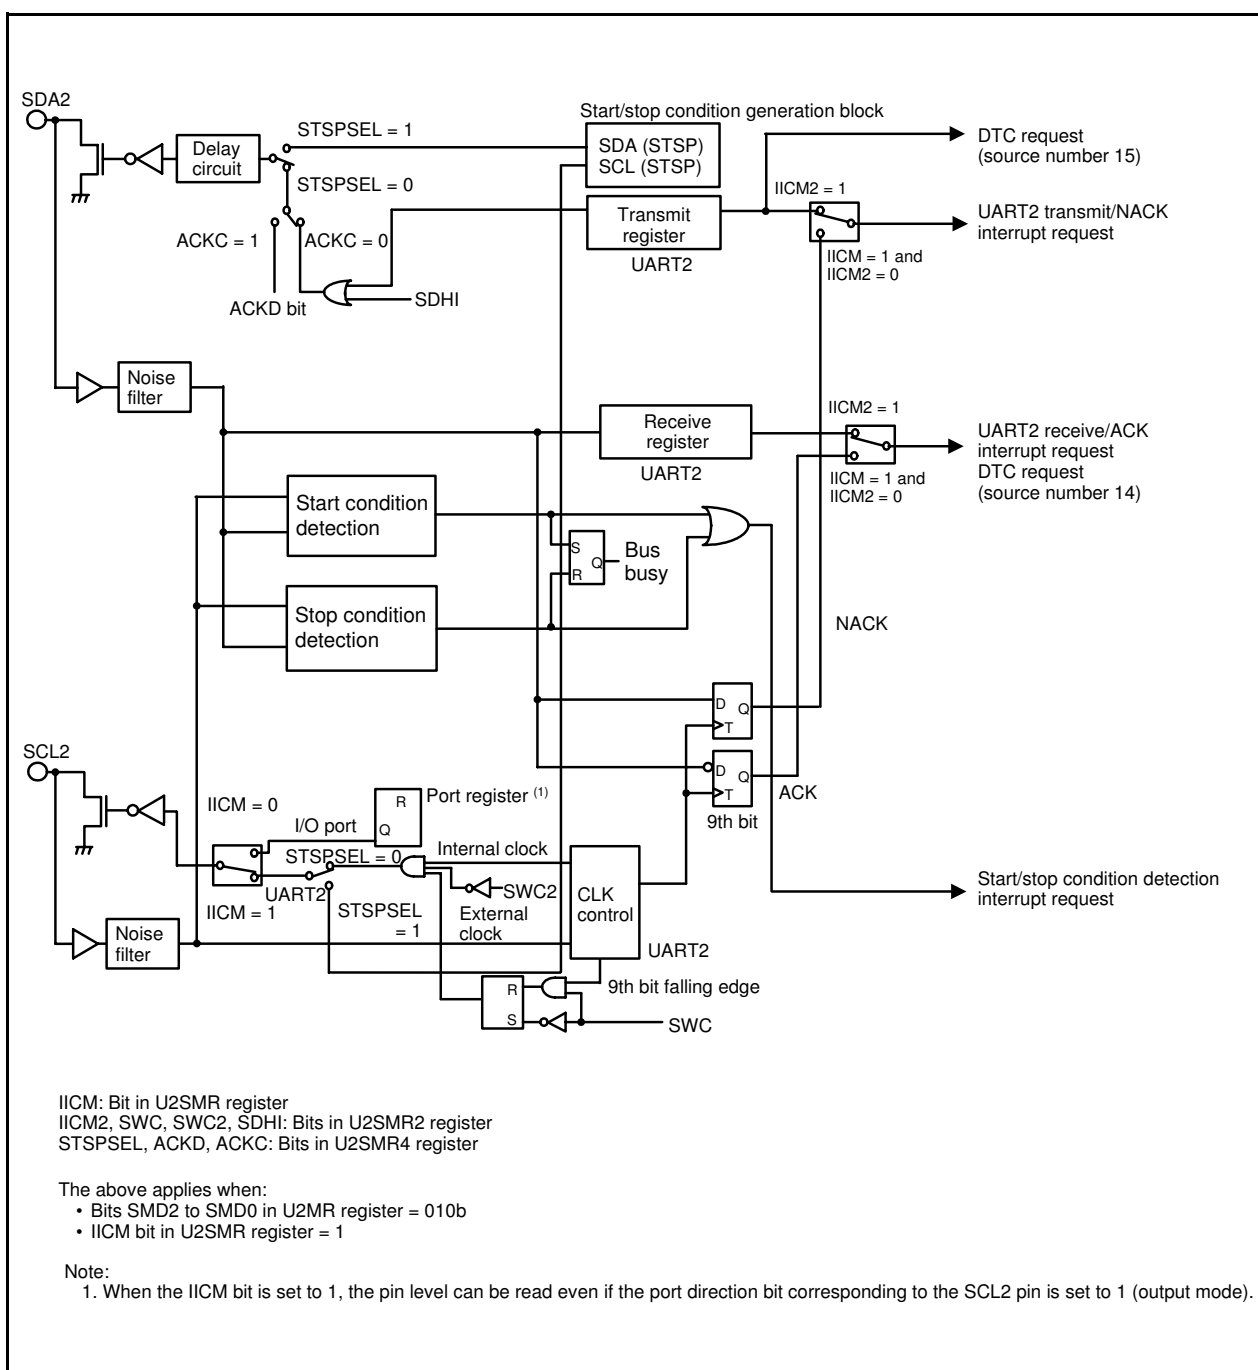
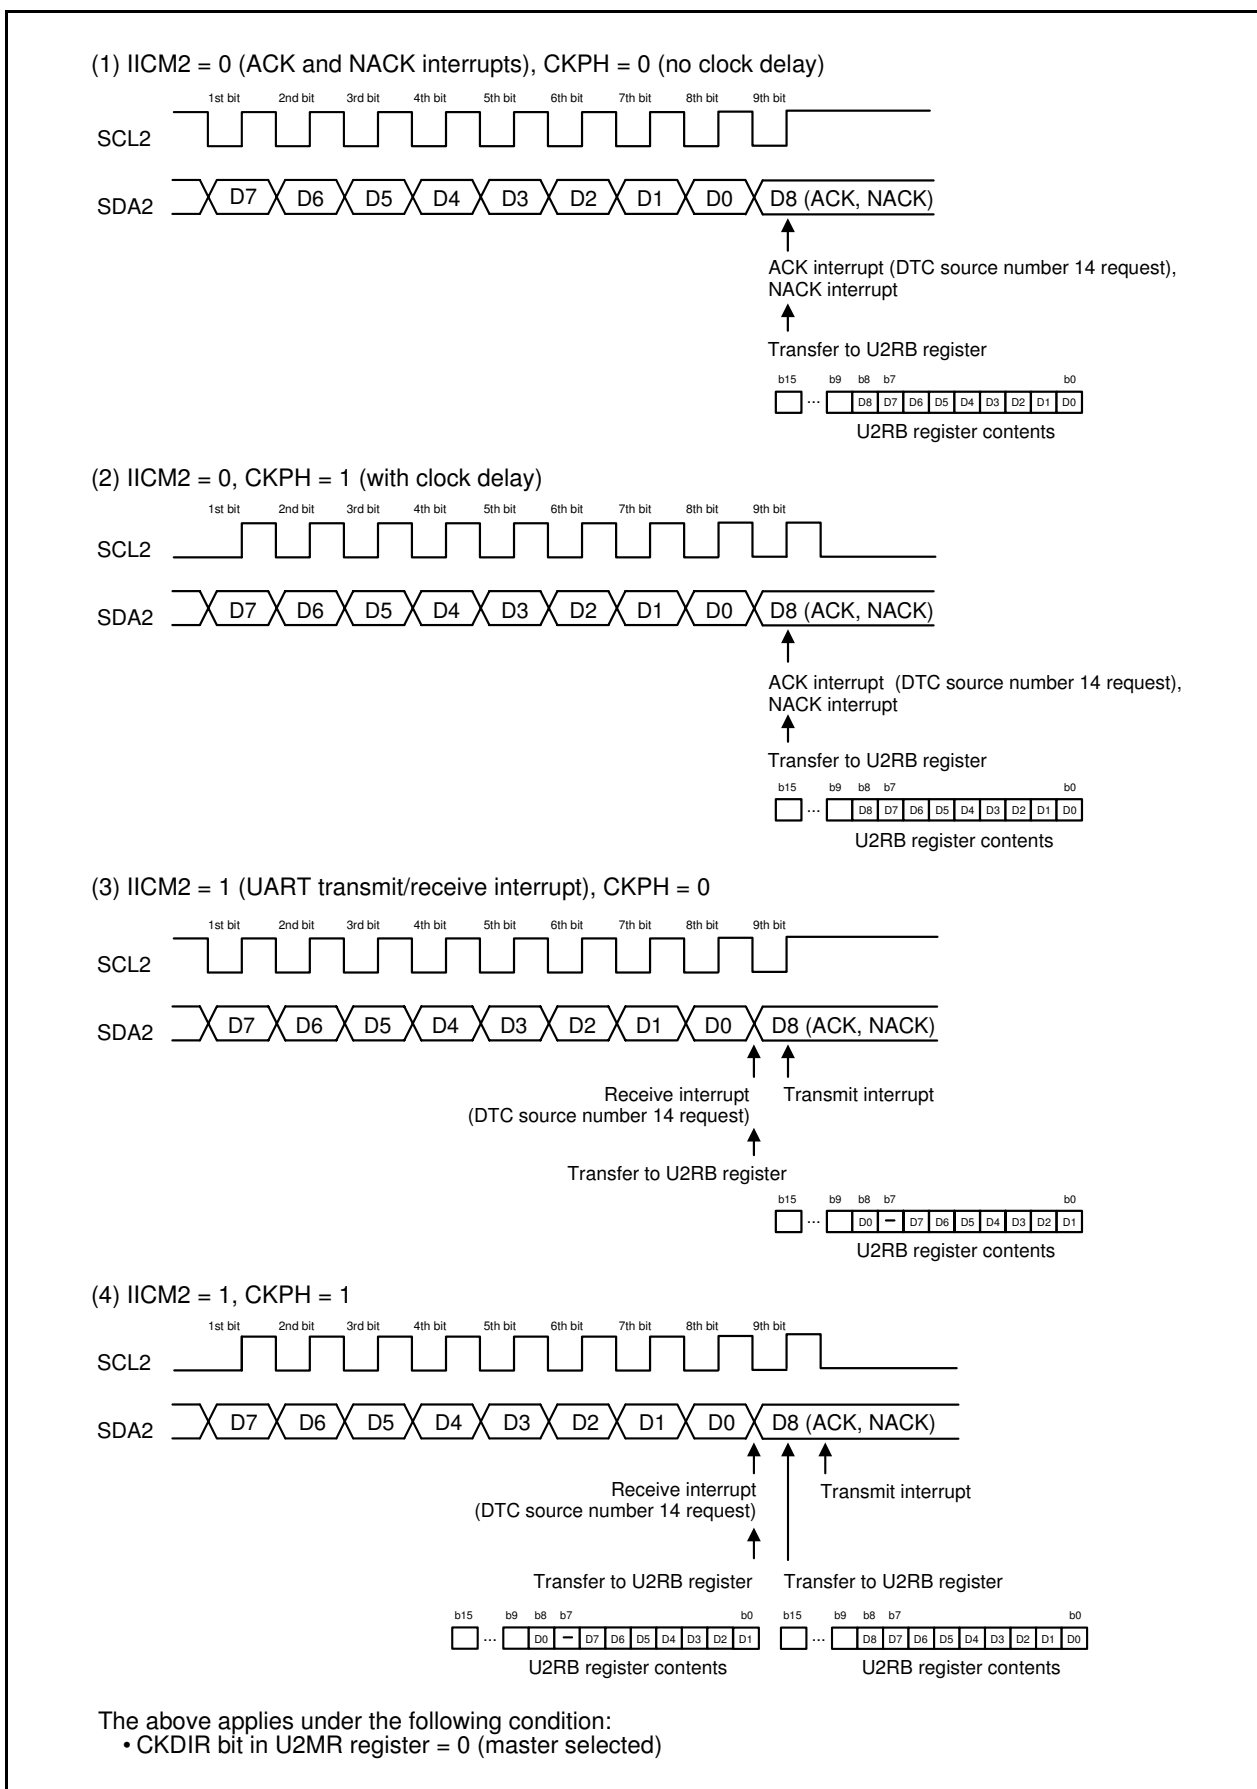

Figure 24.13 Block Diagram of I²C Mode
Figure 24.14 Transfer to U2RB Register and Interrupt Timing
I²C mode is provided for use as a simplified I²C interface compatible mode. Table 24.9 lists the I²C Mode Specifications. Tables 24.10 and 24.11 list the registers used in I²C mode and the settings. Table 24.12 lists the I²C Mode Functions, Figure 24.13 shows a Block Diagram of I²C Mode, and Figure 24.14 shows the Transfer to U2RB Register and Interrupt Timing.
- Refer to **Figure 24.14 Transfer to U2RB Register and Interrupt Timing**.
The transfer clock is used to transmit and receive data as is shown in **Figure 24.14 Transfer to U2RB Register and Interrupt Timing**.